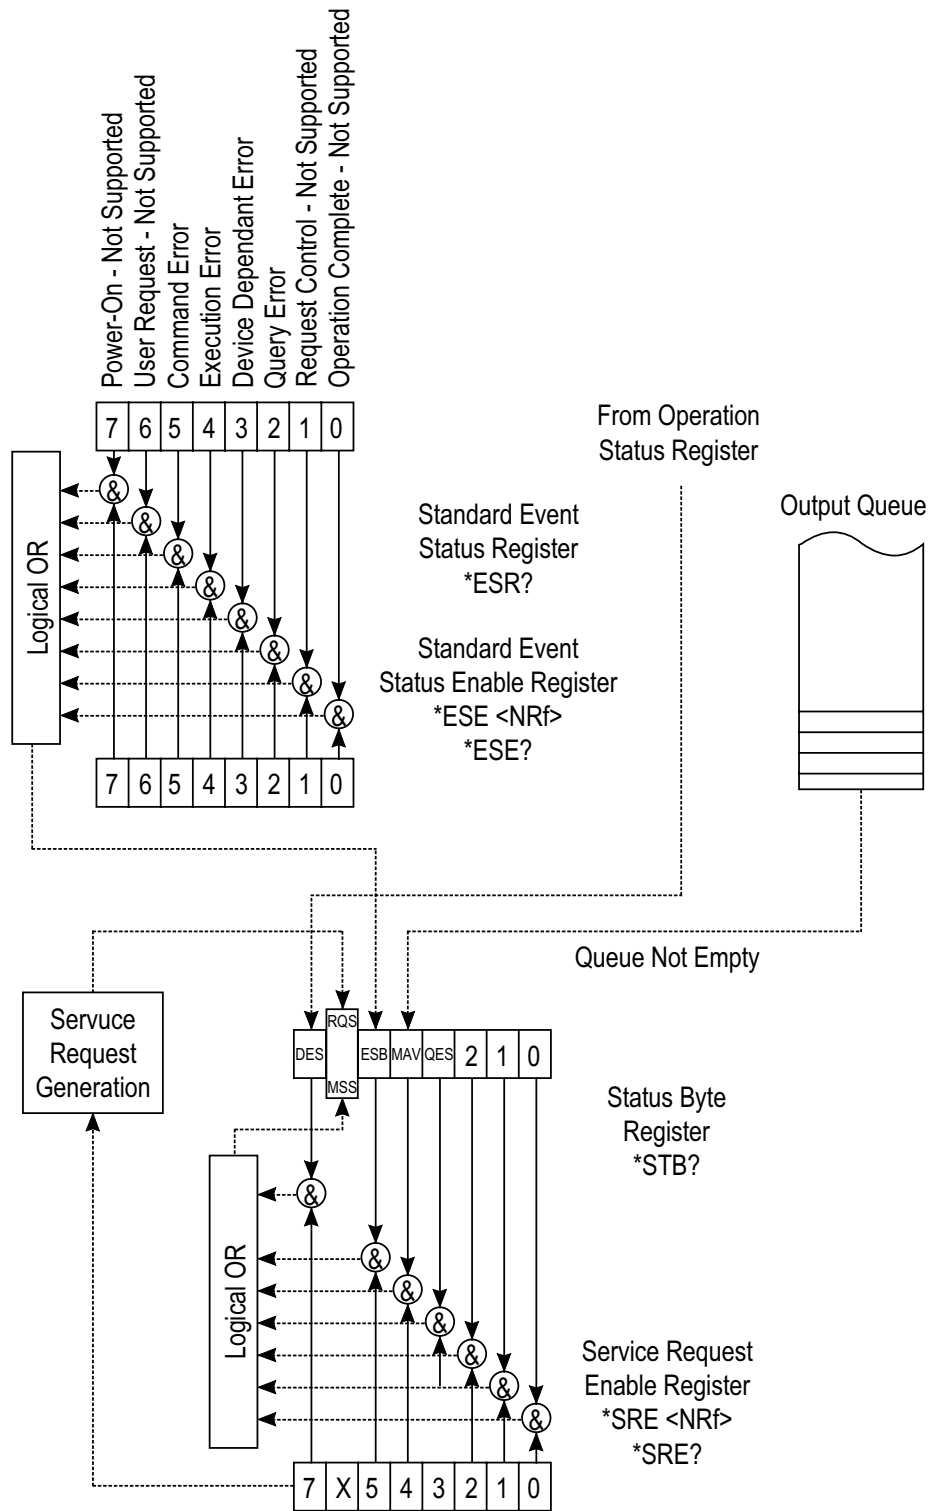

Figure 3-3.
The IO50/IO100 support the mandatory commands set forth in the IEEE 488.2, 1987 specification . The bulk of these commands utilize a four register set for passing operational information to the system . These registers are the Standard Event Status Register, Standard Event Status Enable Register, Status Byte Register and the Service Request Enable Register . Together, these register allow certain conditions to generate a service request to the system Slot 0 Controller, in much the same way that GPIB supports the Service Request (SRQ) function . Many of the commands on the following pages make use of these four registers, so an understanding of the working relationship of these registers is required . For this reason, a functional diagram of the registers is shown in Figure 3-3 . It is also recommended that the user refer to the IEEE 488.2, 1987 manual for further information.
- Remarks: This eight bit register is used to enable what event will cause generation of a Service Request (SRQ) to the Slot 0 Controller . For example, if you wanted to generate a SRQ when the output queue has a message available, you would write a 16 to the SRE register . Refer to Figure 3-3 for the bit definitions to this register.
- Remarks: Returns an integer (0-255) which is the value of the Service Request Enable register . Refer to Figure 3-3 for the bit definitions to this register.